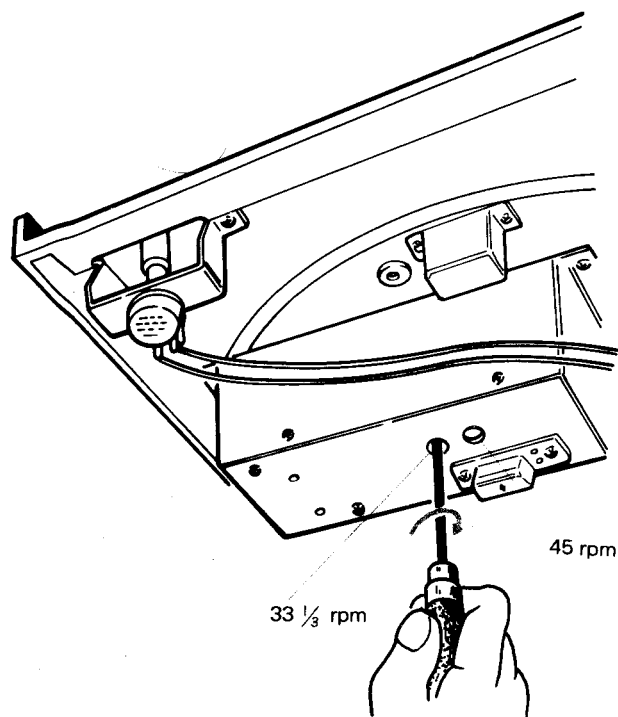

Fig. 3-1 Speed control adjustment
4. Turn the semi-fixed resistor for the 33-1/3 rpm speed with a screwdriver as shown in Fig. 3-1 until the strobe skirt indicates correct operating speed.